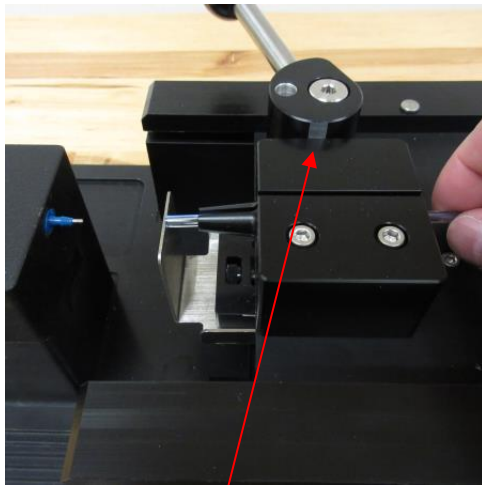

Figure 7
- Open the jaws to the semi open position by rotating the cam until the flat is resting on the jaw (Figure 7)
- With the jaws in the semi open position, insert tubing into jaws up to the stop gate and lock in position with the locking lever. (Figures 7&8)